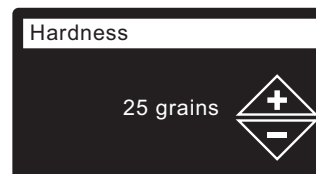

FIG. 25
21. **HARDNESS** Press the UP (▲) or DOWN (▼) buttons to set the value of your water's hardness (See Figure 25).